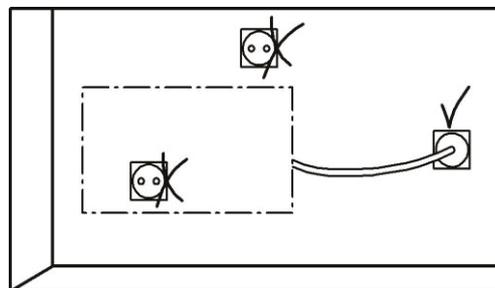
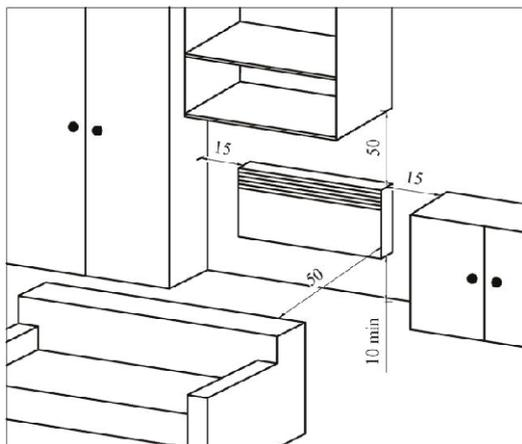

Figure 2
Figure 3
- It is necessary to hold minimum distances from the objects when mounting the convector as shown in Figure 2, Figure 3 (dimension in cm);
Place the convector on supports in the room is similar (see Fig. 3). The distance from the back wall of the convector to objects (furniture, curtains, etc.) must be at least 15 cm.